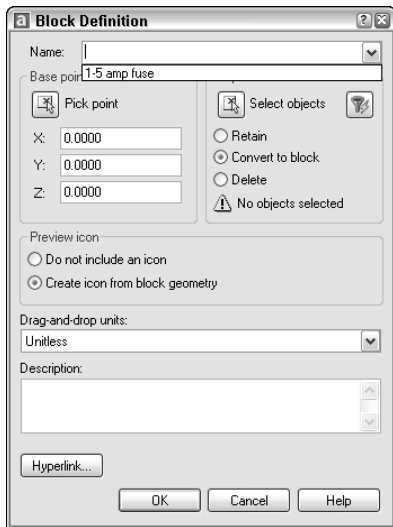

Figure 18-5: The Block Definition dialog box lists the blocks you have created.
10. To check that the block has been created, choose Make Block from the Draw toolbar. Click the Name drop-down list arrow to see your block, as shown in Figure 18-5. Click Cancel.